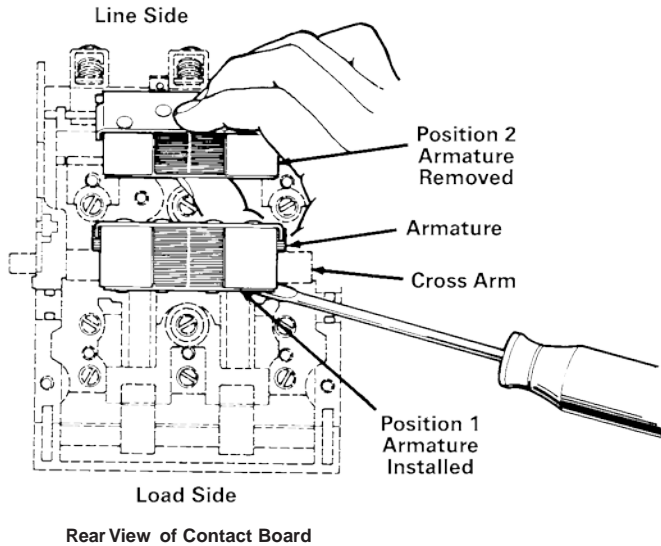

Figure 2
7. The cross arm and armature assembly arrangement is a wide throat T-slot (cross arm) and T-section (armature). Holes in the armature retaining clip and insulation barrier engage a projection on the cross arm. With the contact board positioned as shown in Figure 2, press on the cross arm to bottom it on the contact board. While bottoming cross arm, insert a screwdriver between the armature and a molded projection of the contact board as shown in Figure 2 to start sliding the armature and clip from position 1 toward position 2. After sliding the armature and clip approximately 1/4 inch, grasp the armature for complete removal.
2. Hold the cross arm over the contact board in position 2 as shown in Figure 2. Insert one end of insulation barrier **C** in a cross arm groove. Slightly bow the insulation barrier and insert the other end in the opposite groove.